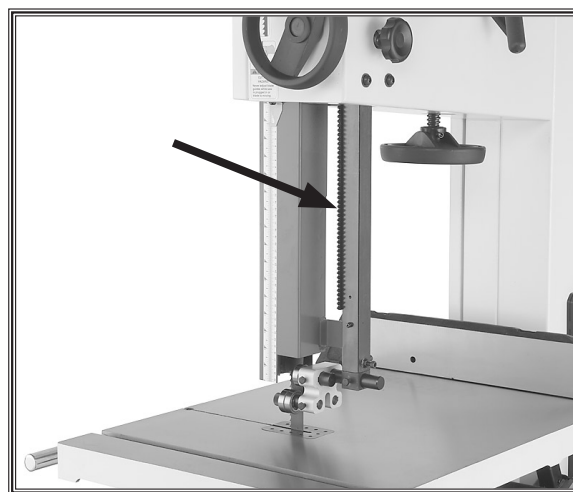

Figure 63. Rack lubrication location.
3. Using a rag and mineral spirits, wipe off any existing grease and sawdust buildup on the rack (see **Figure 63**).